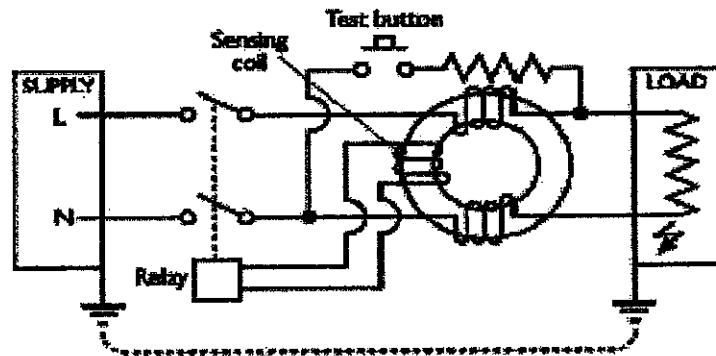

Figure A1(c): Schematic Diagram of Residual Current Device
- (c) By referring to Figure A1(c), interpret the operation of the device.